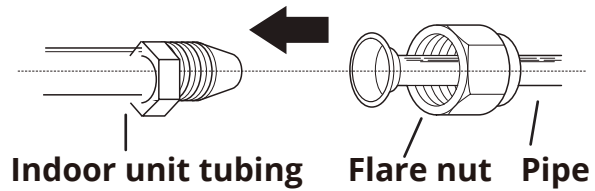

Fig. 7.7
1. Align the center of the two pipes to be connected. Please refer to Fig. 7.7 below.